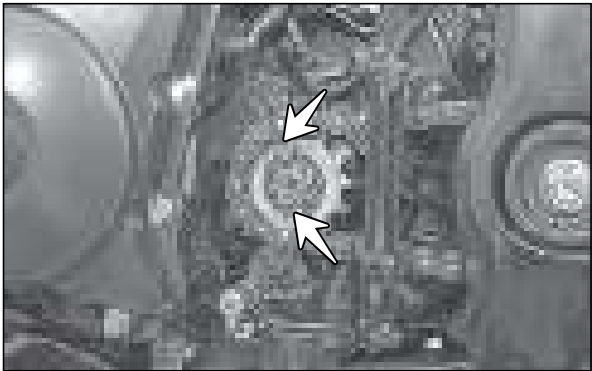

Fig. 3.107
- Remove hexagonal screw (M5x10 - 2 Nos.) from the lock plate engine sprocket mounting. (Fig. 3.107)